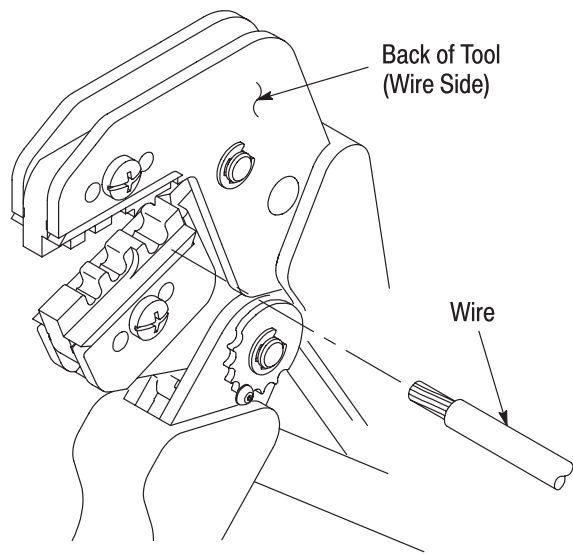

Figure 3
2. Hold the tool so that the back (wire side) is facing you. See Figure 3.